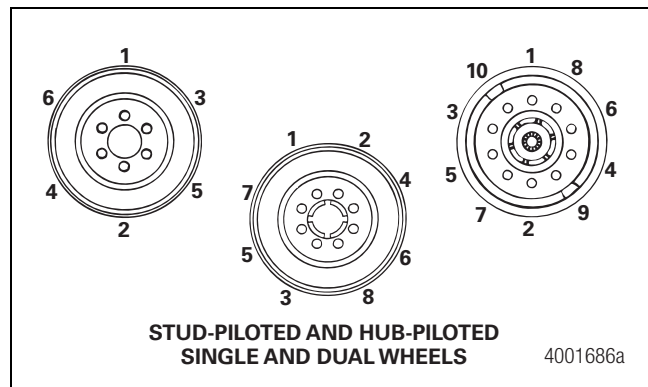

Figure 13.46
11. Follow the disc wheel manufacturer's fastener tightening sequence when you install fasteners to help ensure a higher and more uniform clamp load. Figure 13.46. Always check fasteners at the wheel manufacturer's recommended service intervals.